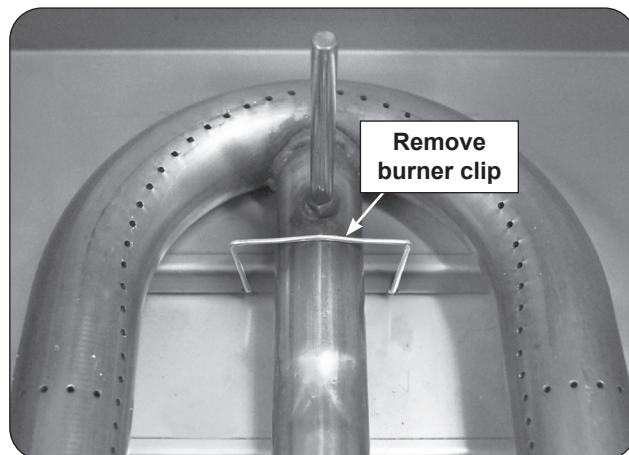

Fig. 43-2 Main burner removal
2. Locate the burner clip (located over the rear center tube of the burner) and slightly pinch and remove the clip from the burner support. See Fig. 43-2.